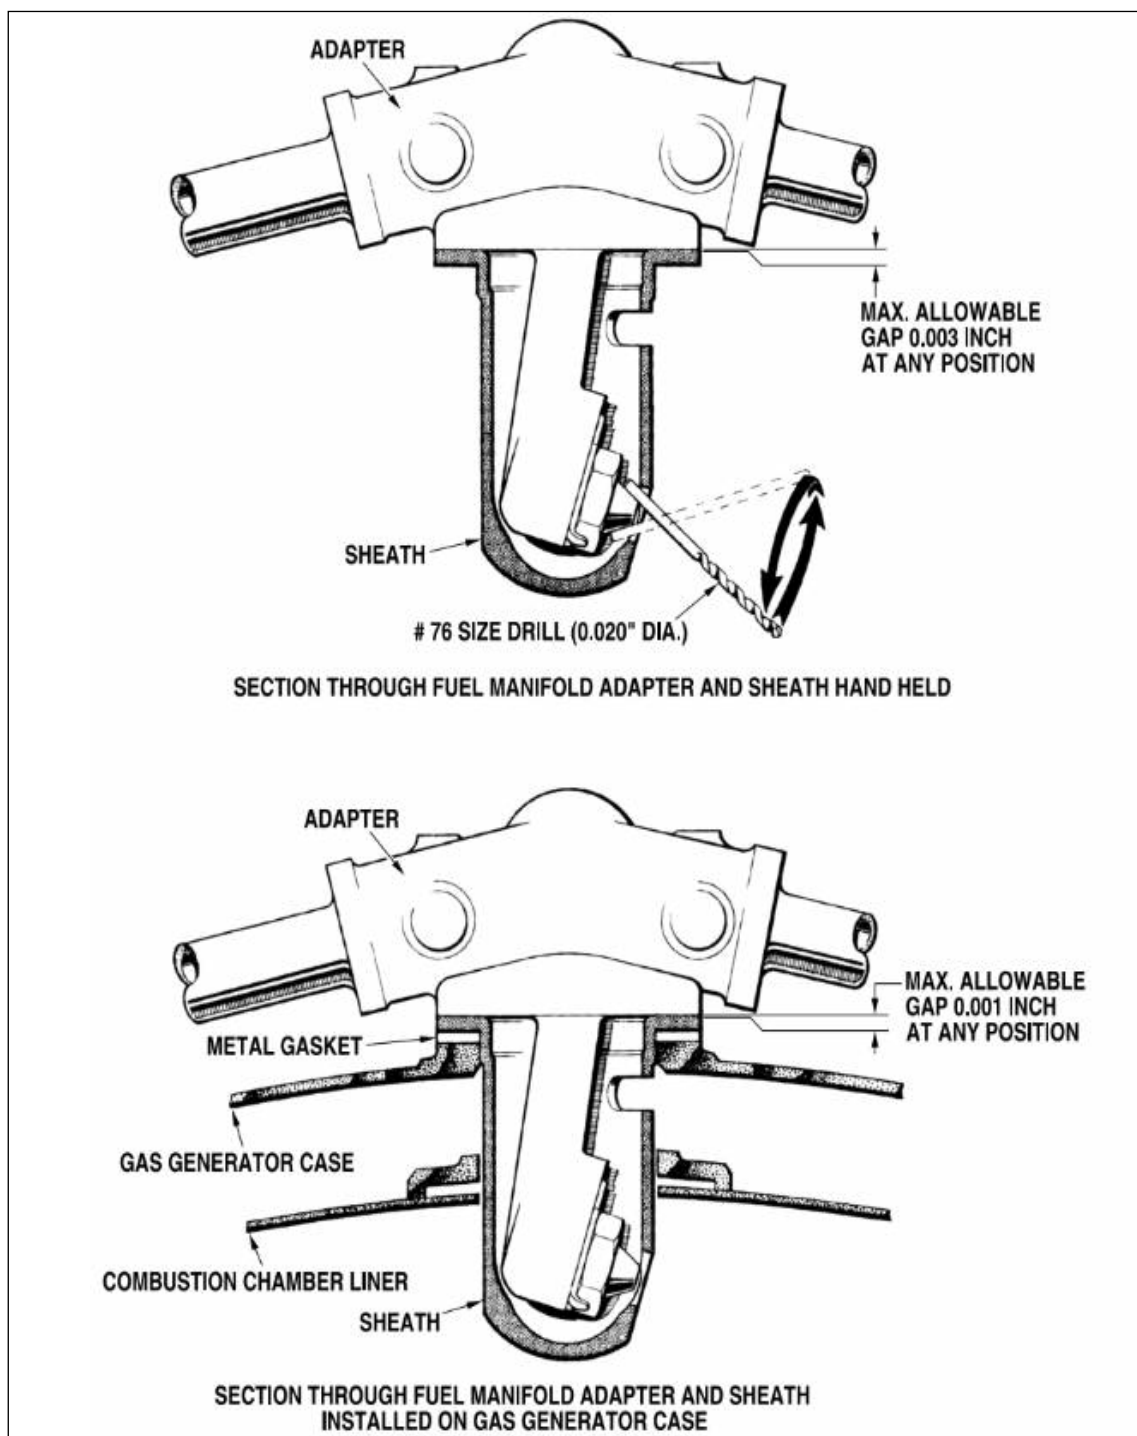

Figure 203 Fuel Manifold Installation - Clearance Checks
b) With Nozzle adapter and sheath pressed together by hand, check clearance between adapter and sheath flanges. Maximum gap allowed is 0.003 inch (Ref. Fig 203 upper drawing) Larger gap suggests either or both parts are distorted. If found Send distorted parts to parts P & W for repair.
c) Carefully check gap between fuel nozzle tip and side hole in sheath; clearance of 0.020 inch is required (Ref. Fig 203). If clearance is less at any point, either or both parts are distorted. If found Send distorted parts to parts Pratt and Whitney for repair.
NOTE: After torquing, a 0.001 in. gap is allowed between the adapter and sheath flanges (Ref. Fig. 203 lower drawing).